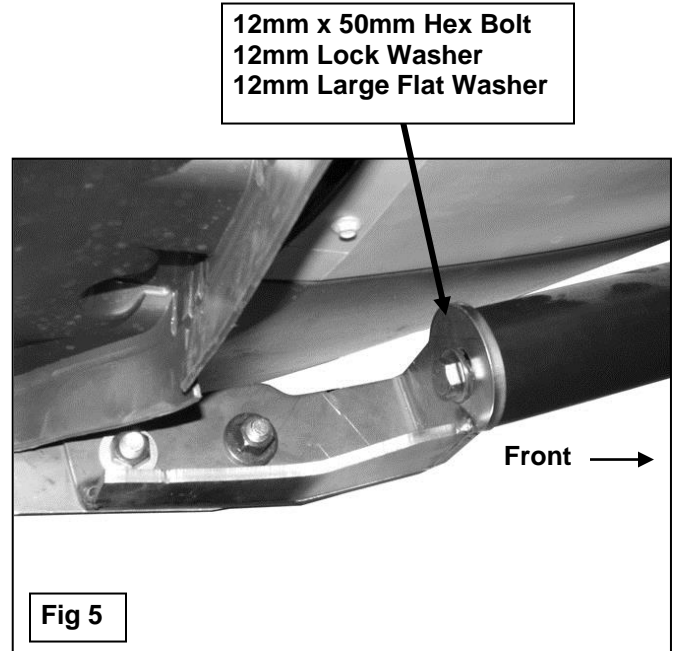

Fig 5
- Carefully un-wrap the Bull Bar. With assistance, hold the Bull Bar up to the Mounting Brackets. Bolt the end of the tubes on the Bull Bar to the Mounting Brackets with the included (2) 12mm x 50mm Hex Bolts, (2) 12mm Lock Washers and (2) 12mm x 32mm Large Flat Washers, **(Figure 5)**. Snug but do not tighten hardware at this time.